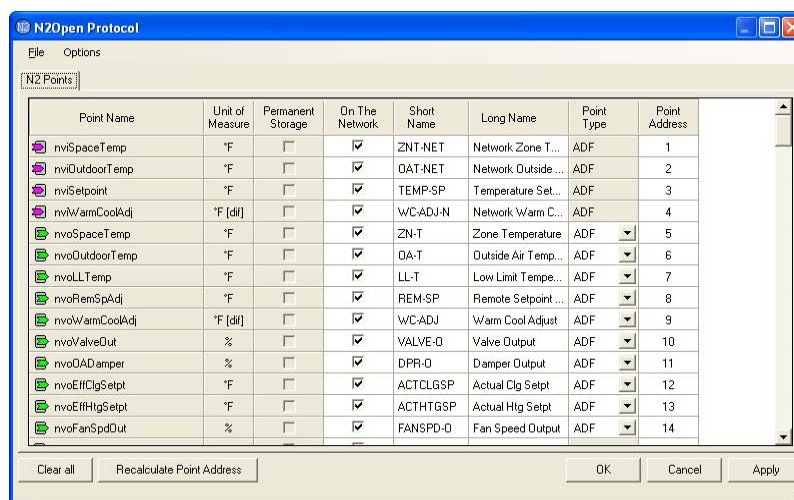

Figure 220: N2 Open Plug-in Window
1. On the Protocol menu, select Add and then N2 Open. The N2 profile is automatically created. Every application point is exposed with a corresponding N2 network point (Figure 220).